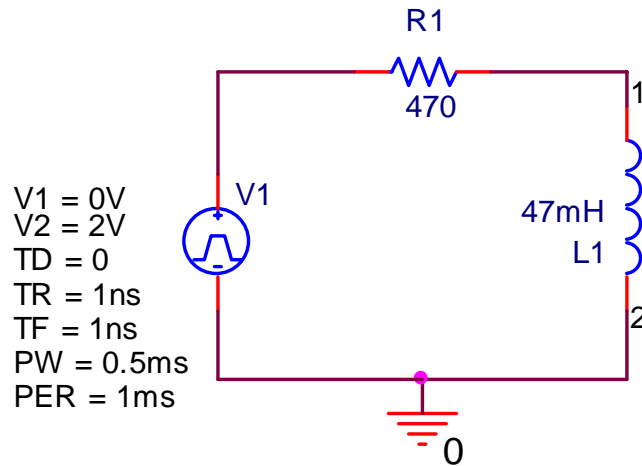

Figure 4: Circuit #3
Build the circuit below shown in Figure 4 in PSPICE, and then complete the subsequent steps.
- (1) Simulate the above circuit in PSPICE from 0-3 ms and save the waveform of v_L and add it to your prelab report.
- (2) The inductor and resistor in Figure 4 forms one first-order RL circuit. What is the time constant τ for this RL circuit?
- (3) Consider one period of stimulus signal shown in Figure 4. When voltage rises from 0V to 2V and it holds more than 5 times of τ , the waveform of v_L can be treated as step response. Calculate the step response of the circuit shown in Figure 4 and compare it with the simulated waveform from 0-0.5 ms. What is the initial voltage and what is the